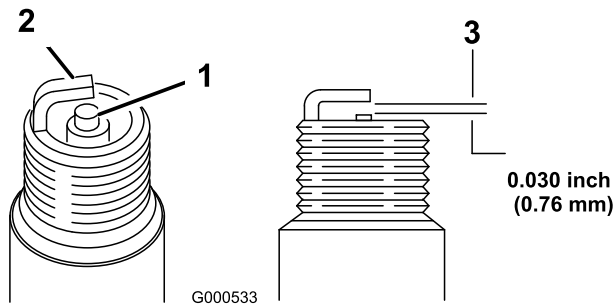

Figure 49
1. Look at the center of the spark plugs (Figure 49).
2. Check the gap between the center and side electrodes (Figure 49) and bend the side electrode, if the gap is not correct.